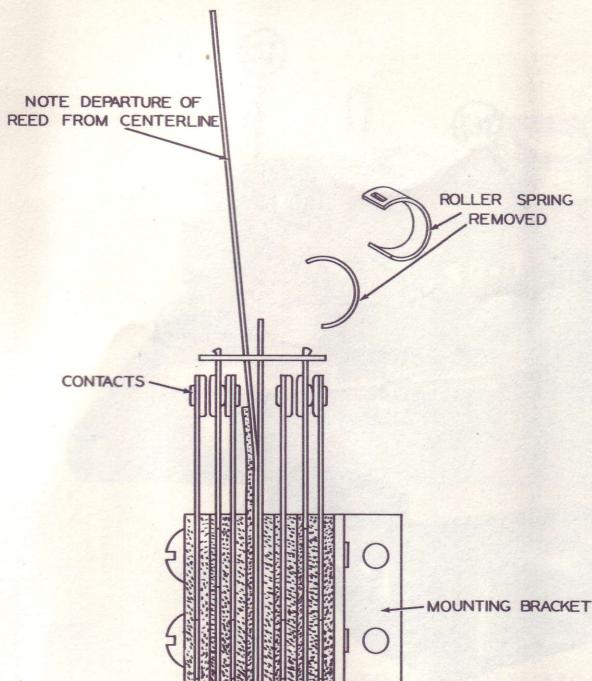
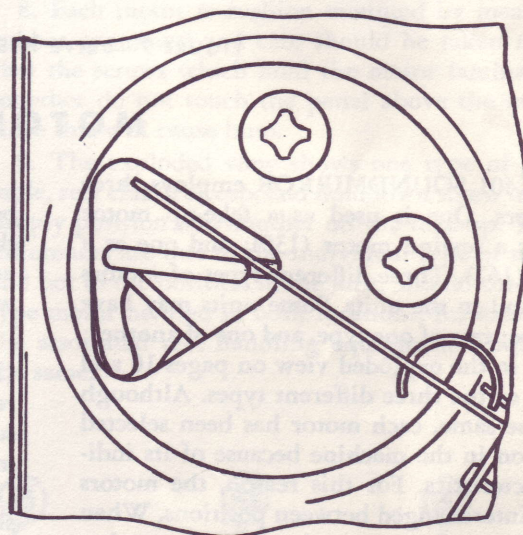

FIGURE 4—LIMIT SWITCH
FIGURE 6—REVERSE LIMIT SWITCH
5. Fig. 4 shows the proper adjustment of either Limit switch with the small roller spring removed. Note that the main reed is not straight, but angles slightly from the body of the switch. The contacts should be barely touching, as shown, and will be held open when the roller spring is in place. The Forward Limit switch should act when the reed is  $\frac{1}{8}$ " from the end of its travel in either opening or closing directions. The Reverse Limit switch should be adjusted to act as the point shown in Fig. 6. A maximum pressure of 14 grams (approximately  $\frac{1}{2}$  ounce) should be required to bring the switch over its null point, and a minimum of 4 grams (approximately  $\frac{1}{7}$  ounce) to hold, as measured at point where the actuator contacts the reed. Adjustment of either Limit switch is accomplished by loosening the screws which hold the switch to the panel and repositioning on the panel. All adjustments should be made when the switches are cool to minimize temperature effects. If the roller spring is removed, it should be replaced in exactly the same position as it was, on the mounting bracket side of the switch and with the convex side of the spring away from the reed and toward the mounting bracket. The amount of overtravel should be checked to see that it is not great enough to reopen the switch contacts.